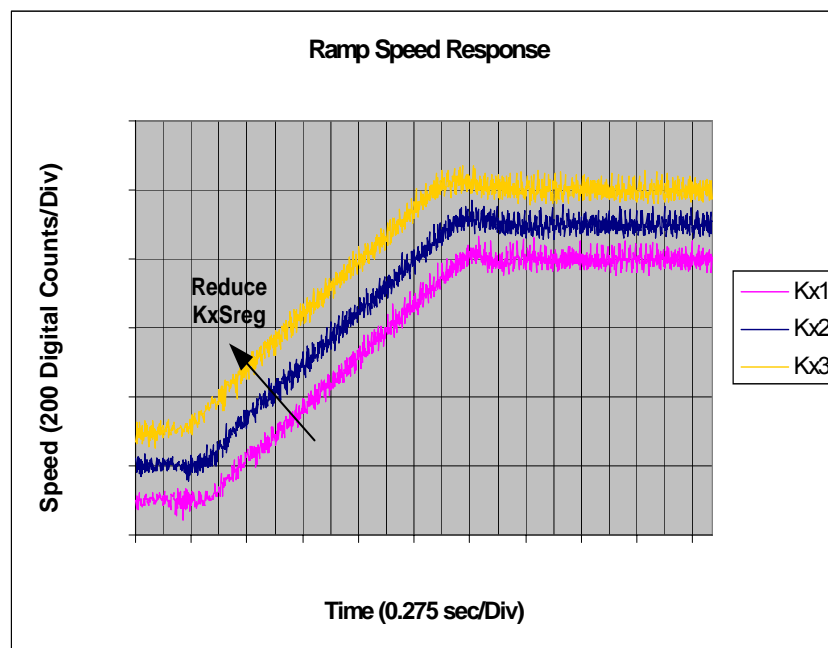

Figure 24—Ramp Speed Response under Different KxSreg Gains
- 2) **Tuning of KxSreg.** After the desired proportional gain (KpSreg) is selected (step 1), please resume the desired ramp rate and speed regulator integral gain (KxSreg). Under such circumstance (with KpSreg = Kp3 and KxSreg = Kx1), issue a ramp speed command over the same speed range as illustrated in step 1. Figure 24 shows the ramp speed responses under 3 different integral gains (Kx1, Kx2 and Kx3). The response with the original integral gain (Kx1) exhibits oscillatory behavior. The integral gain is being reduced (Kx2 and Kx3) just enough to remove speed oscillation. For this fan application, the response obtained is acceptable with KxSreg = Kx3.